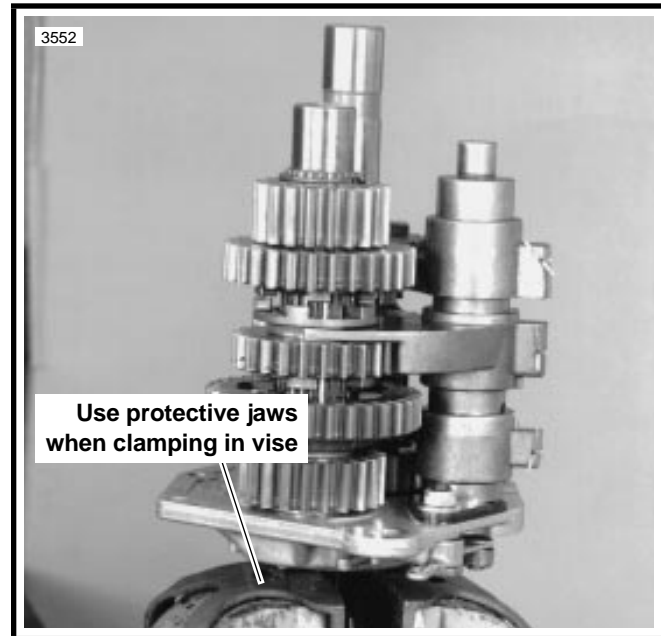

Figure 6-20.
2. See Figure 6-20. Clamp transmission assembly in vise, with protective jaws, as shown, to work on disassembly.